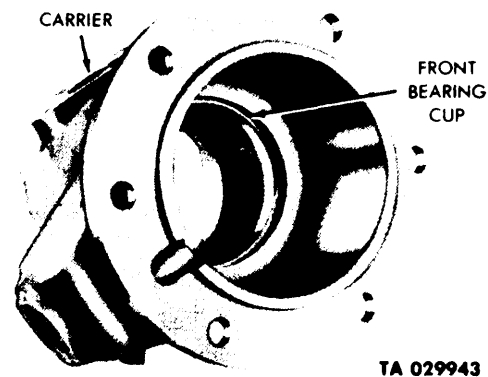

Figure 5-34. Removal of Output Shaft Front Bearing Cup.
e. *Output Shaft Front Bearing Cup.* Place the carrier and front bearing cup in an arbor press. (See fig. 5-34.) Press the cup from the carrier.
- b. Output shaft front bearing cup. (See fig. 5-34.)